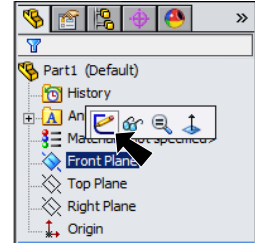

Fig. 1
Step 2. Click **Front Plane**  in the Feature Manager and click **Sketch**  from the Content toolbar, **Fig. 1**.